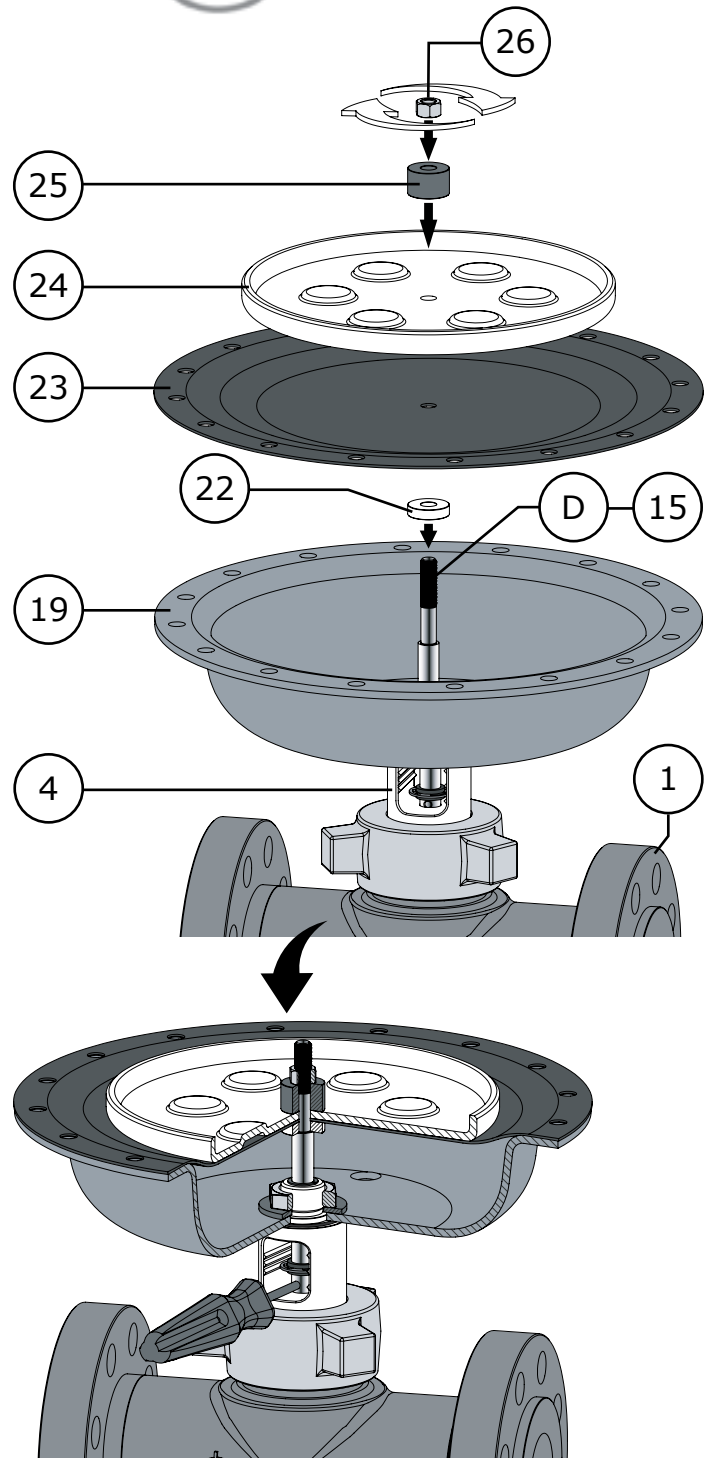

Figure 41 Lower Diaphragm Assembly (Fail Closed)
FOR FAIL CLOSED ACTUATORS (Refer to Figures 41 & 42):
- Install the diaphragm plate (Key 24) as shown in Figure 41.